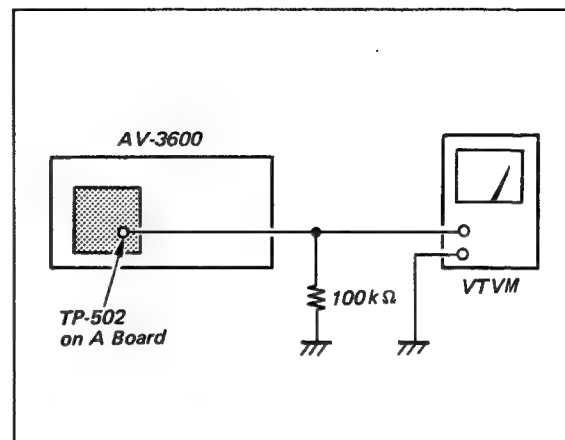

Fig. 7-2. Audio playback level and frequency response adjustment set-up
Set-up : See Fig. 7-2.
1. Connect the ac VTVM to TP-502 using a 100 k Ω load resistor as shown in Fig. 7-2.